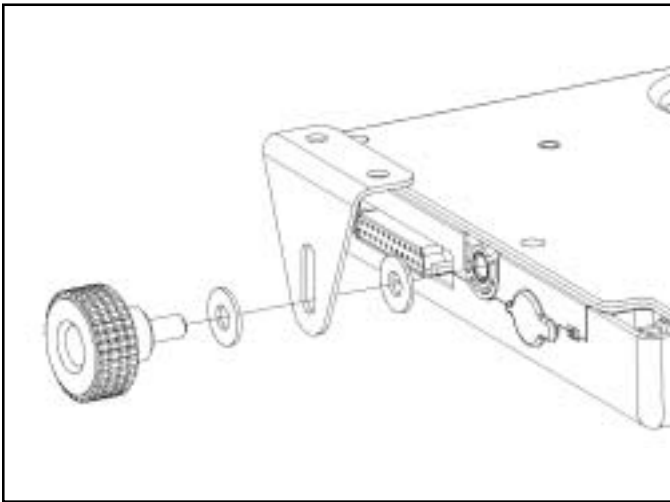

FIGURE 30 - WASHERS AND THREADED KNOBS [SHOWN IN CB STYLE MOUNT (OVERHEAD) POSITION]
7. Hold one washer between the display and a bracket while threading the washer/knob from the outside of the bracket. See Figure 30.
2. Unscrew the threaded knobs from the display and brackets. Refer to Figure 30. Set the knobs and washers aside.
6. Hold one washer between the new display and a bracket while threading the washer/knob from the outside of the bracket. Refer to Figure 30 on Page 15.